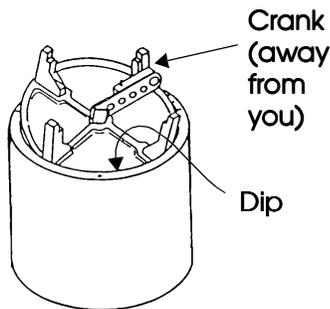

Figure 4.11
3. Orient the piston so that the crankarm is also directly away from you. Dip the front edge of the piston just down into the cylinder. (Figure 4.11) Press the piston against the cylinder wall so that the Kaseal at the rear of the piston will not catch on the top of the cylinder as you gently ease the rest of the piston into the cylinder.